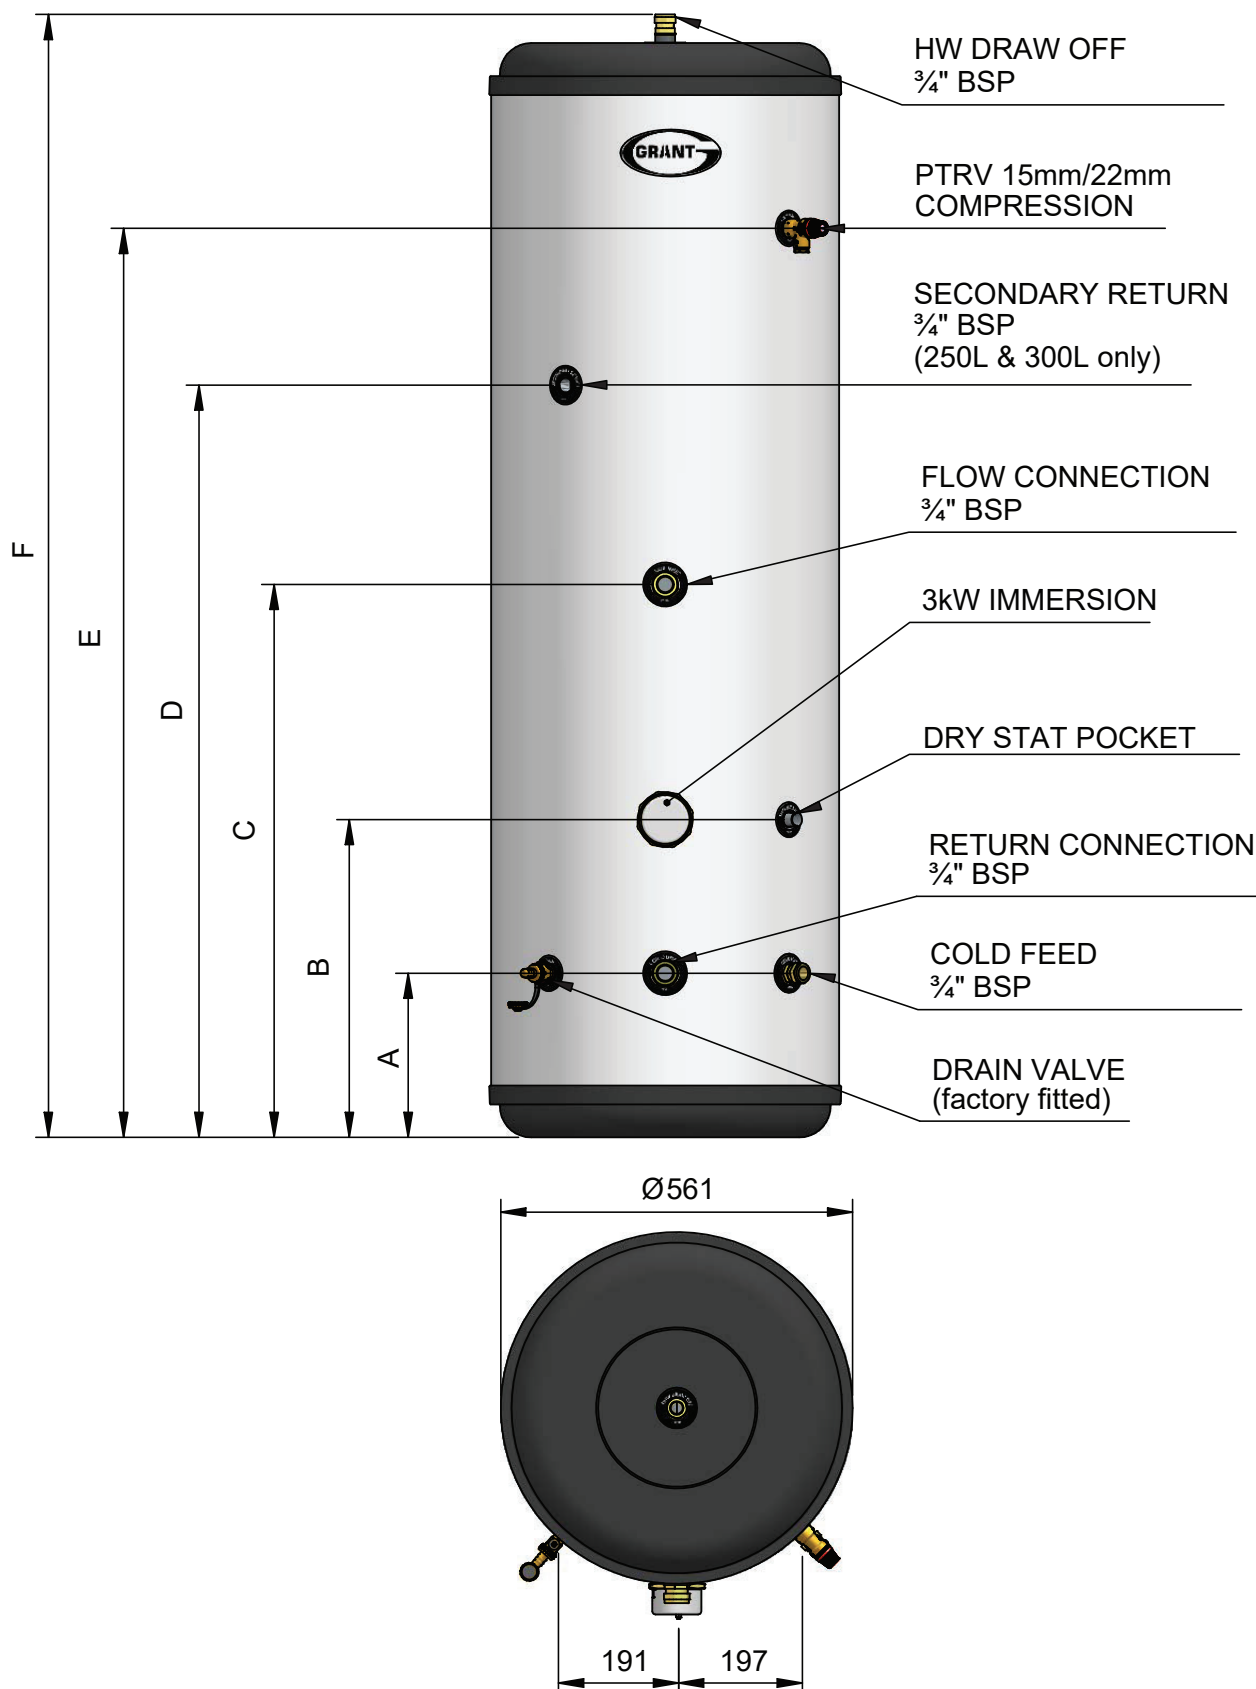

Figure 2-1: Grant QR single coil Heat Pump cylinder dimensions
- The primary flow and return connections from the heat pump should be made to the flow and return connections of the cylinder. Refer to Figures 2-1 to 2-3, as appropriate.